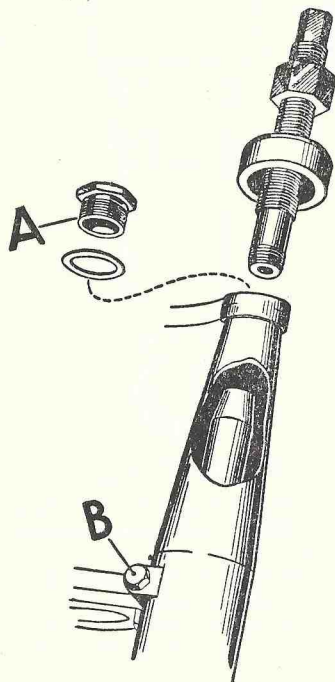

Fig. 24. Fork Assembly.
Remove the front wheel and front mudguard. Remove the cap (A) Fig. 24, and screw tool 61-3350 into the thread in the top of the main fork shaft. Slacken the pinch bolt (B). By striking the top of the tool smartly with a hammer the fork shaft will be freed from its taper in the top fork yoke and the complete fork leg can be pulled out from the bottom of the fork. Repeat the operation for the other leg. Note that the smaller of the two fine threads on the extractor tool is used for dismantling the forks on another model and will therefore not be used. In an emergency the chromium plated cap can be used in place of the extractor, but it is likely to be damaged.
Re-assembly is carried out in the reverse order to dismantling. Make sure the oil seal lip is facing downwards. Before screwing down the oil seal holder pass one turn of medium twine round the undercut at the base of the thread to provide an additional seal. When replacing the legs pass the main fork shaft up through the bottom yoke as far as it will go, then pass the tool 61-3350 down through the top yoke and screw it into the top of the shaft (Fig. 24). Do up the nut on the tool to pull the shaft up into the top yoke. Tighten the clamp (B) in the bottom yoke while the tool is removed and the top plug (A) replaced. Slacken the lower clamp, tighten the top plug firmly, then do up the clamp again. If the clip-on type of handlebars are fitted they can be used to pull the fork shaft up into the top yoke. Alternatively, in an emergency, a suitable sized length of wood, cut to a taper at the end, can be screwed into the top of the shaft.